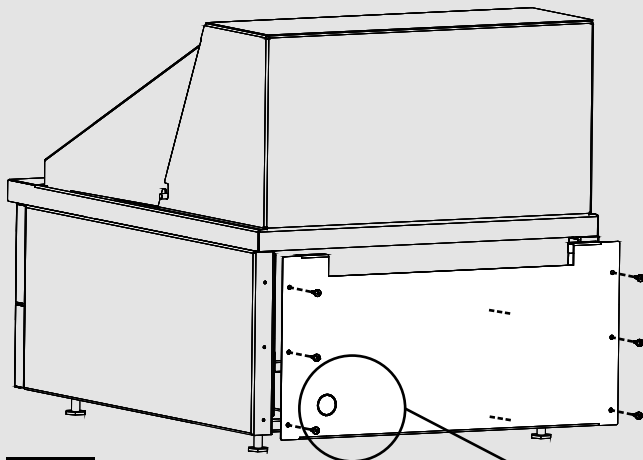

Figure 3
2. Remove the unit rear panel by unscrewing the six (6) fixing screws. **(Figure 3)**